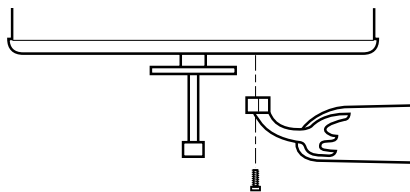

Figure 6d - Attaching Blade Irons to Hub of Fan Assembly
4. For each blade, insert one blade mounting screw through the blade iron as shown in Figure 6d, and attach lightly to the fan. Insert the second blade mounting screw, then securely tighten both mounting screws.